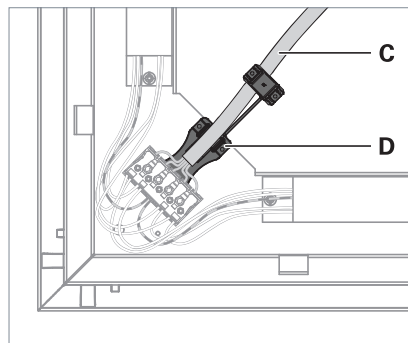

Fig. 6: Mounting the strain relief.
- ▶ Fix the connecting cable **C** with the strain relief **D**, see Fig. 6.